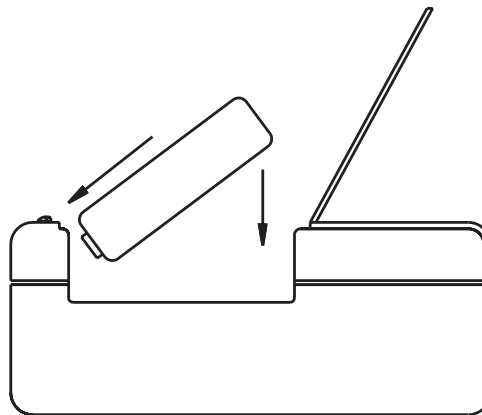

Figure 16 Battery Pack Orientation
- Insert alkaline battery holder, with 4 approved AAA cells, into the battery compartment. Observe battery pack contacts orientation (See **Figure 16**). This means that the connector end faces the rear of the instrument where it makes electrical contact. Once the end with the connector is pushed in, the rear of the battery pack may be pushed down.
- Insert the MPRO NiMH rechargeable battery pack into battery compartment as shown. (See **Figure 16**). The